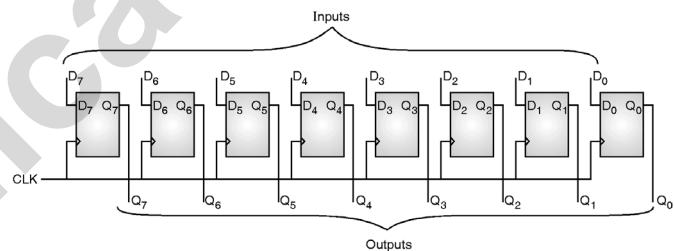

Fig. 9.5.2 : 8 bit register
- It consists of PIPO (Parallel in parallel out) register as shown in Fig. 9.5.2.